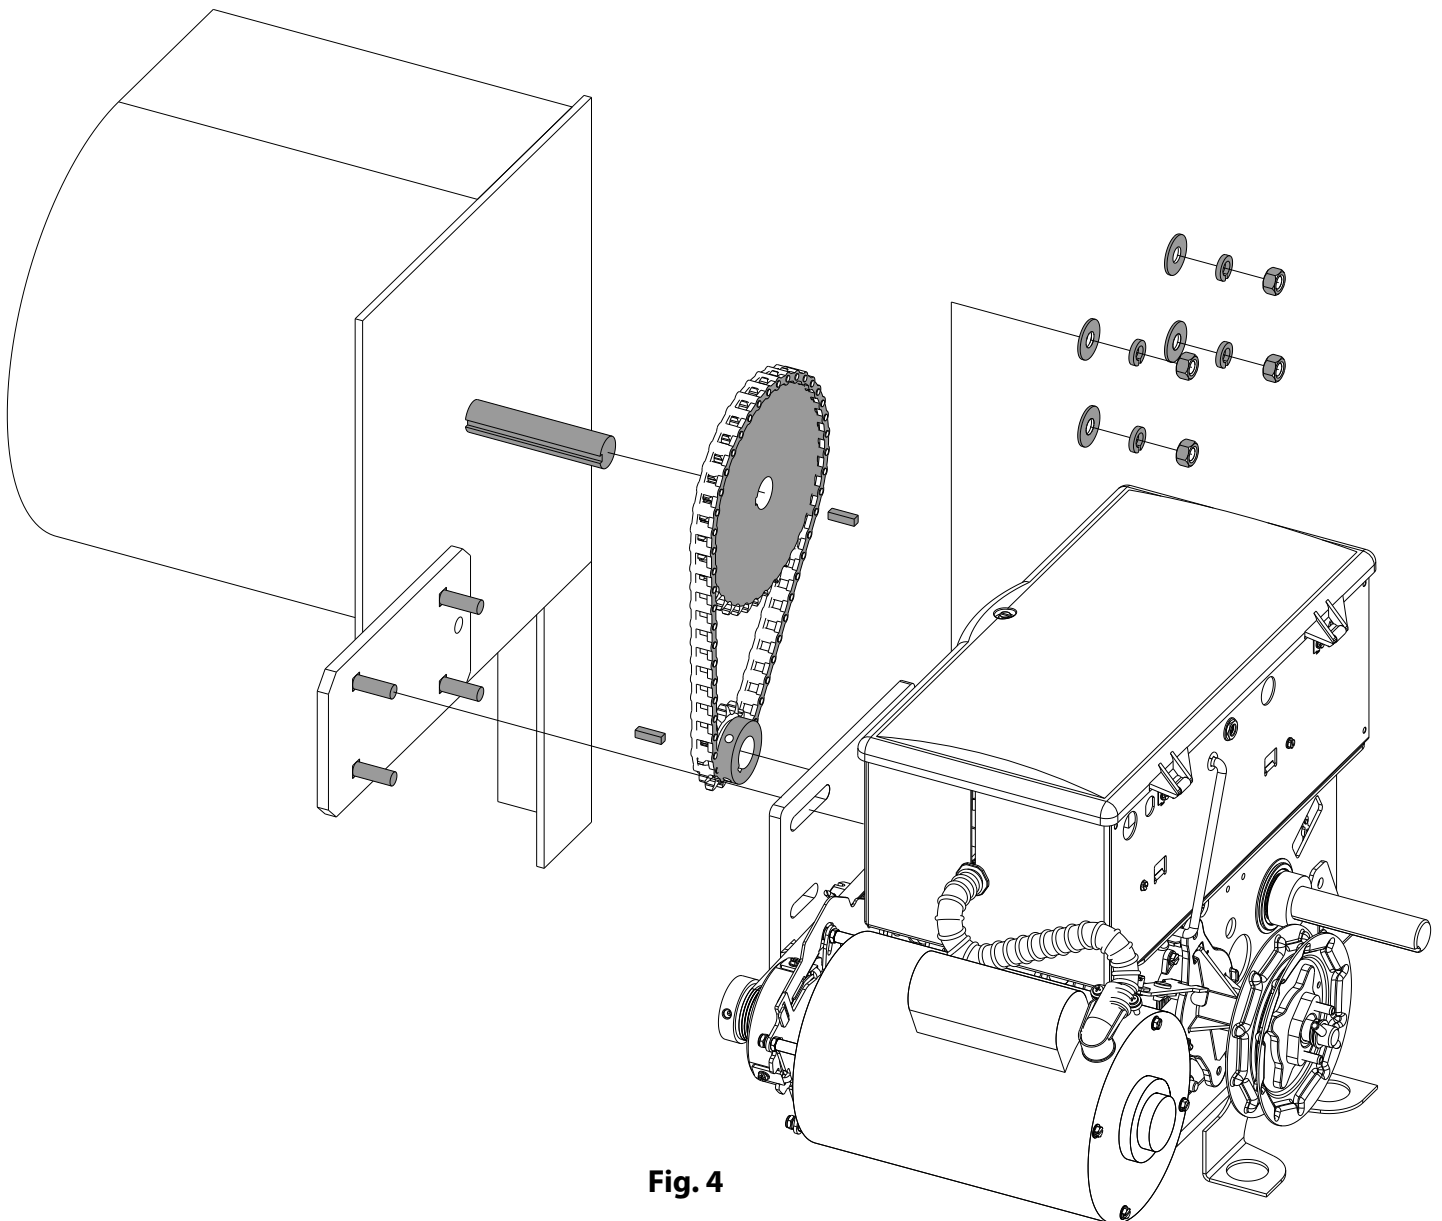

Fig. 4
- 1) Attach operator assembly to headplate mounting bracket. Do not tighten. Fig. 4